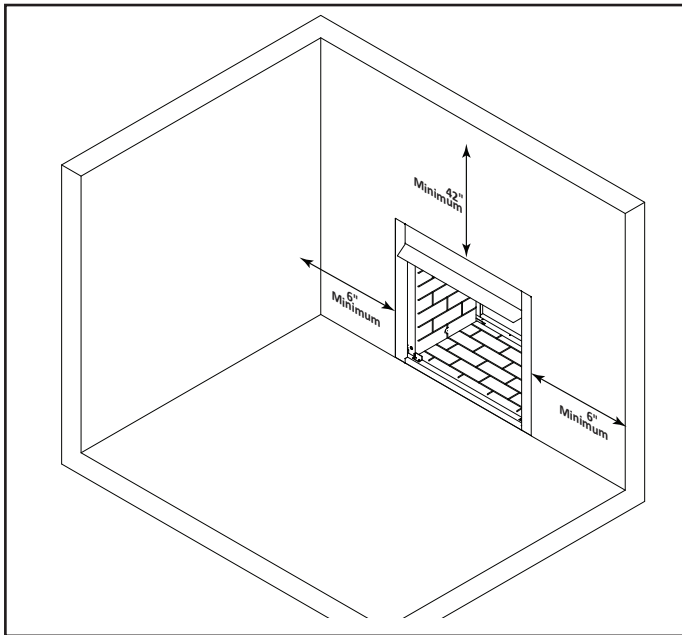

Figure 6.1 Clearance and Height Requirements
Ensure that minimum clearances shown in Figures 6.1 through 6.4 are maintained. Left and right clearances are determined when facing the front of the firebox.
- 1. Sidewall clearances:** The clearance from the inside of the appliance to any combustible wall should not be less than 6". See Figure 6.1.
- 2. Ceiling clearance:** The ceiling must be at least 42" from the top of the firebox opening. See Figure 6.1.